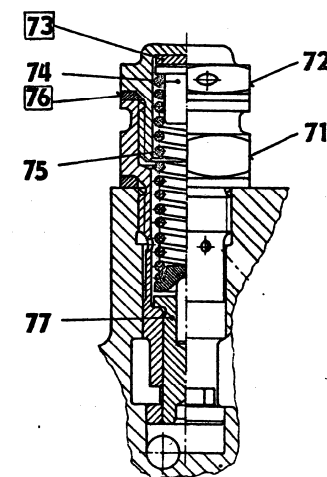

Figure 11-35 Relief valve
(3) Pressure adjustment using element 73 and 76 of the relief valve - figure 11-35